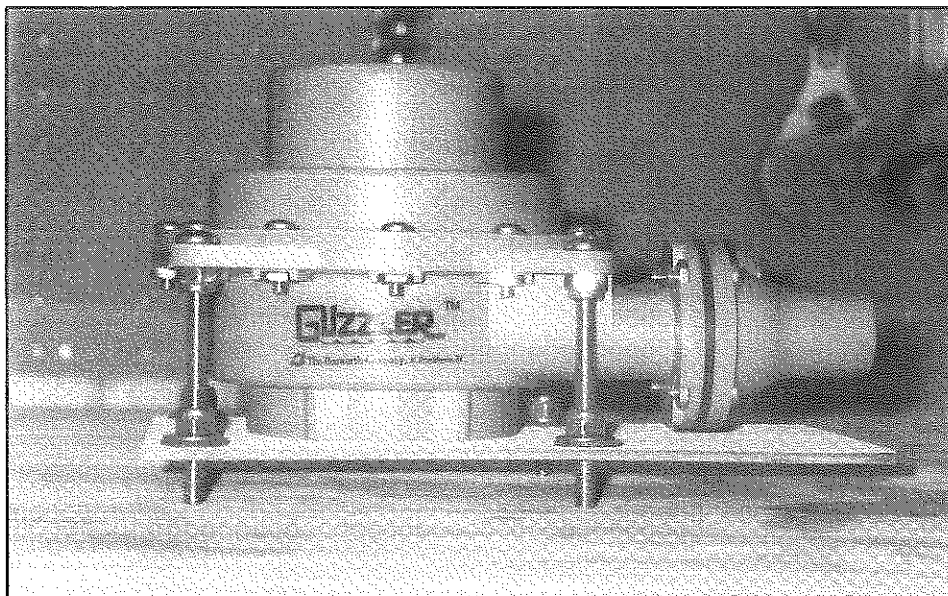

Figure 2. Pump with screws in jig.
- Separate the pump from the jig so that you can put the bulkhead-side nuts and washers on the screws. First, back on the lock nuts, followed, in order, by the steel and neoprene washers. Slide the jig back on the screws until it is in contact with the pump. Adjust the nuts so that the neoprene washers are secured between the jig face and steel washers. (Figure 2.)